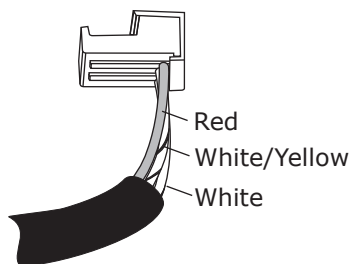

Figure 7
1. Remove OEM fan switch actuator stud (See Figure 7 and photos, below). **NOTE: Fan switch actuator stud removal is required to allow clearance for duct hoses. Failure to remove the stud will result in a punctured duct hose.**
2. Locate the control panel wiring harness, and plug the corresponding wire into the correct cable converter assembly as shown in Figure 7, below.